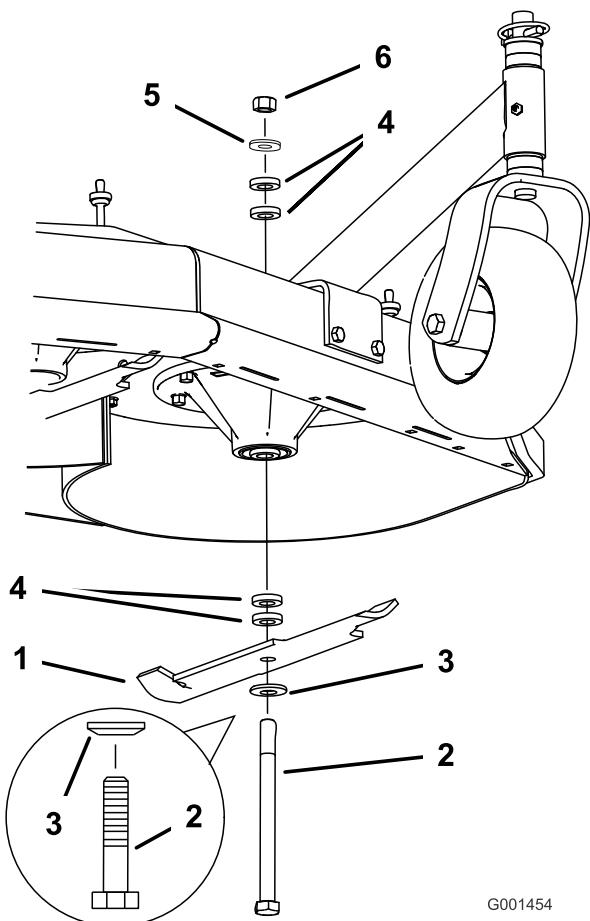

Figure 17
3. Hold the blade bolt and remove the nut (Figure 17).
4. Slide the bolt down through the spindle, and change the spacers as needed (Figure 17).
5. Install the bolt and curved washer, add extra spacer(s), and secure them with a thin washer and a nut (Figure 17).